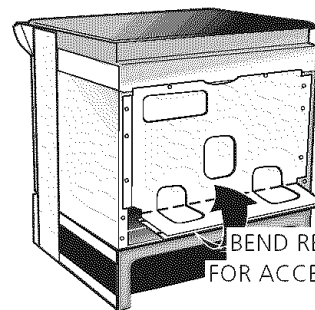

Figure 2
1. Remove the 3 screws at the lower end of the rear wire cover, then bend the lower end of the rear wire cover (access cover) upward to expose range terminal connection block (see Figure 2).
1. Remove the 3 screws at the lower end of the rear wire cover, then raise the lower end of the rear wire cover (access cover) upward to expose range terminal connection block (see Figure 2).